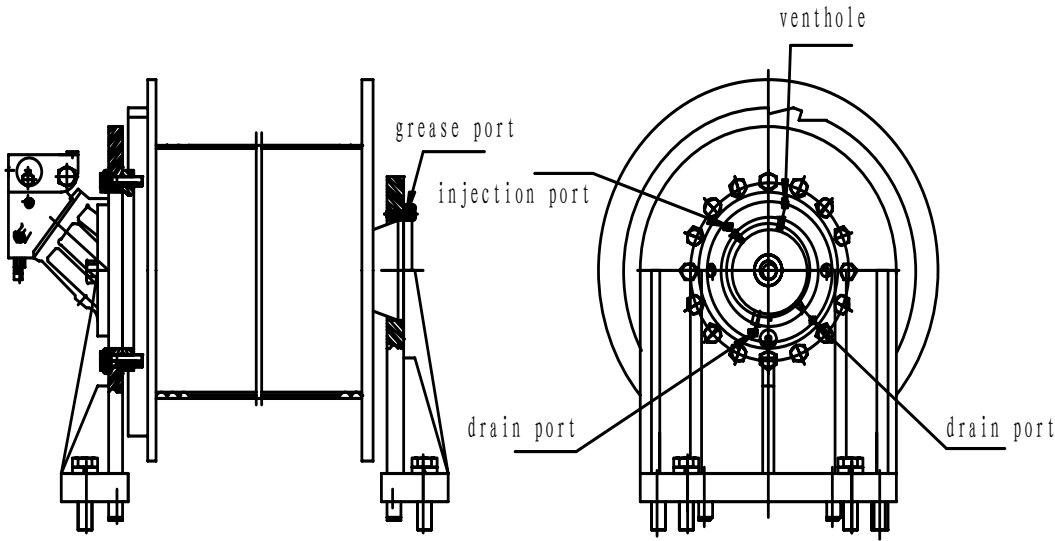

Fig. 6-2 Derricking winch
8. The grease points, oil filling ports and drainage ports are shown in Fig. 6-2.